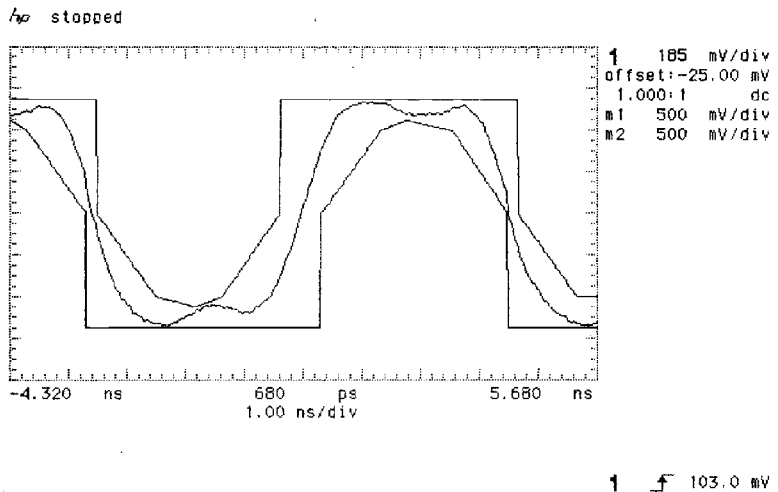

Figure 3-14
45. Press SHIFT **AUTOSCALE** on the oscilloscope to automatically align the pulse to the mask. Verify that the pulse falls within the mask as shown in Figure 3-14.